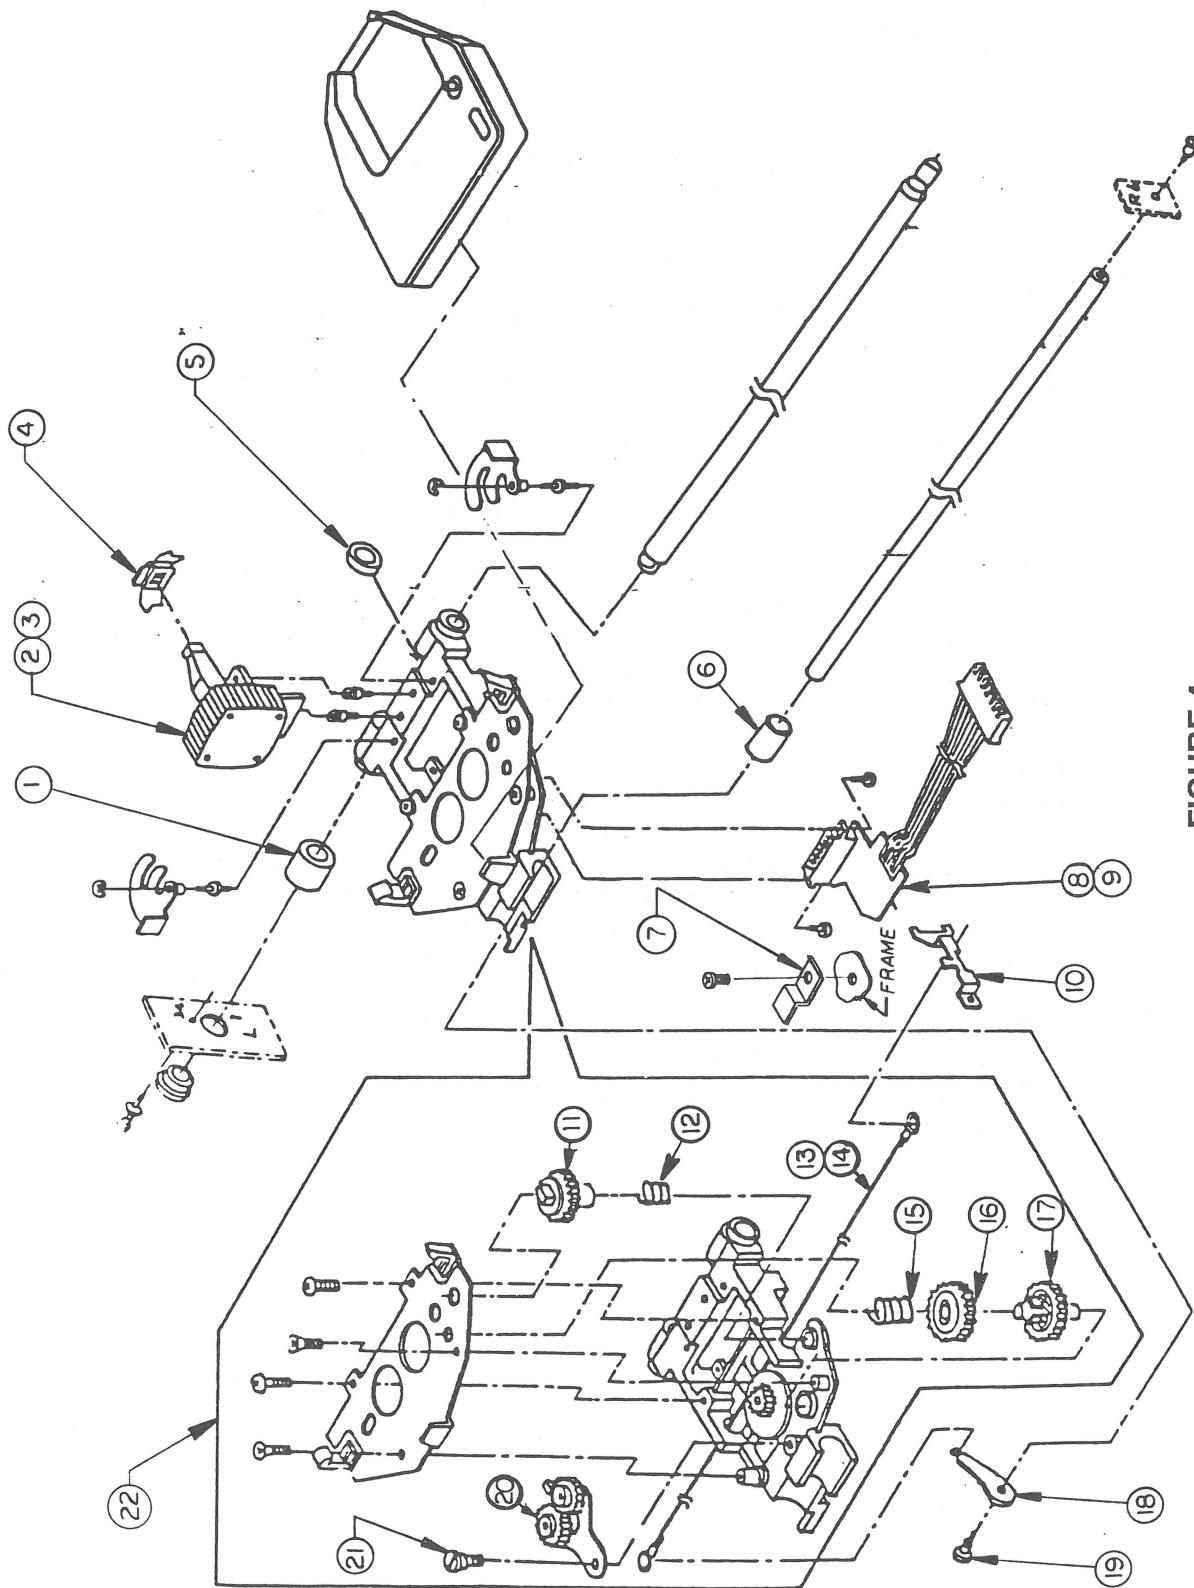

FIGURE 4
□ PRINT HEAD ASSEMBLY (Figure 4)